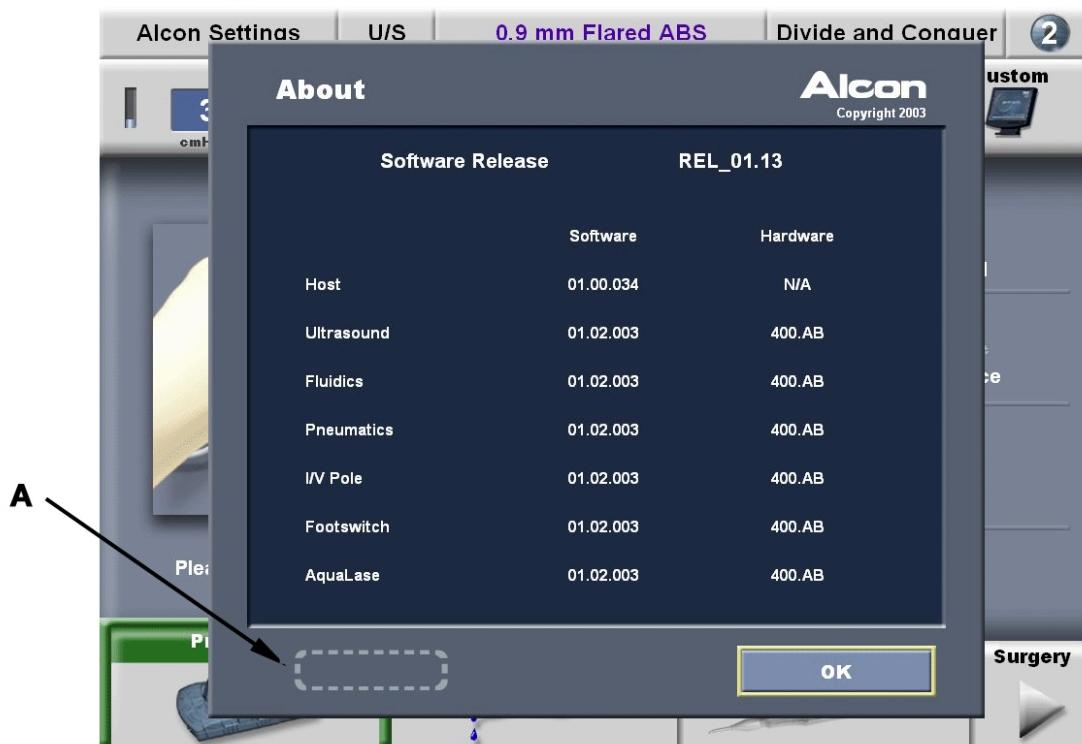

Figure 3: Touchscreen area for Service mode
2.2.5.1.1 Install Phaco FMS. From Setup screen, select **Custom** then **About**. In the "About" window press **About** on the upper left corner, then press the area marked "A" in Figure 3 to access Service mode.